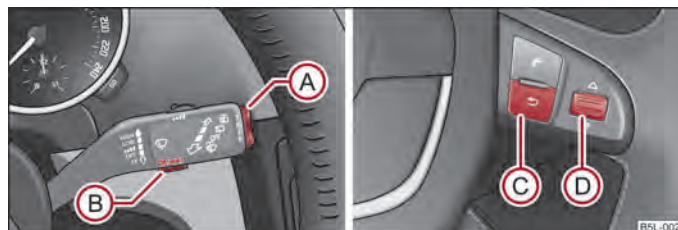

Fig. 7 Information display: Controls on the windshield wiper lever/controls on the multifunction steering wheel
- You can activate the **Main Menu** by pressing the rocker switch (A) ⇒ fig. 7 for more than 1 second.
- You can select individual menu points by means of the rocker switch (A). When the pushbutton (B) is briefly pressed, the information you have selected is displayed.
- You can activate the **Main menu** by pressing the rocker switch (C) ⇒ fig. 7 for more than 1 second.
- By briefly pressing the (C) button you will reach one level higher.
- You can select the individual menus by pressing the handwheel (D). After briefly pressing the handwheel (D), the desired menu is indicated.